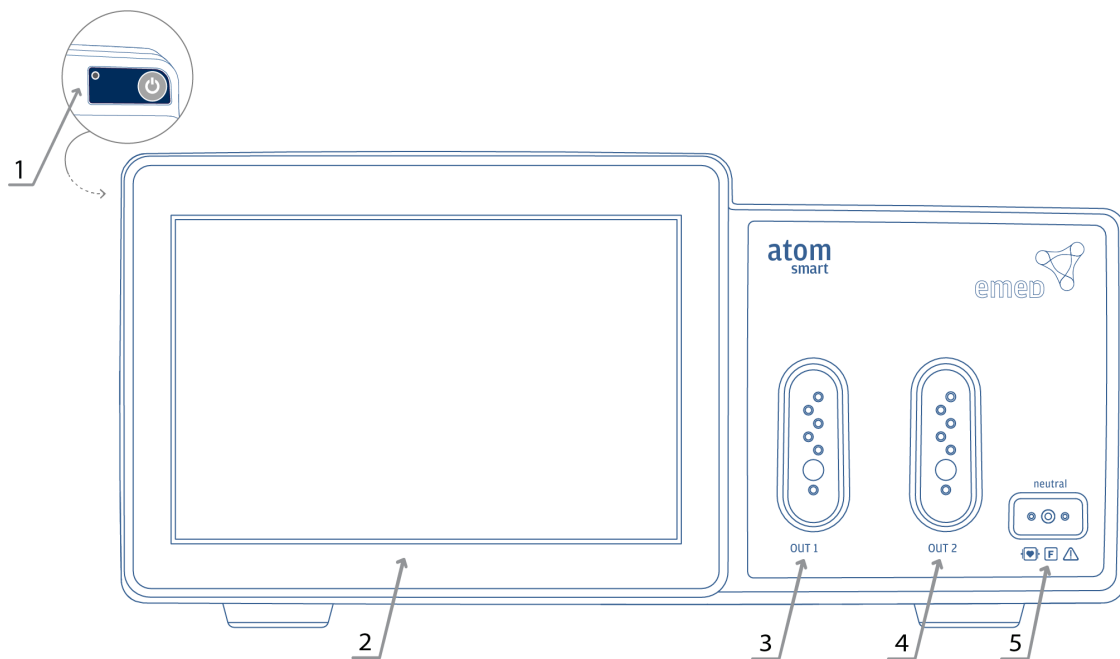
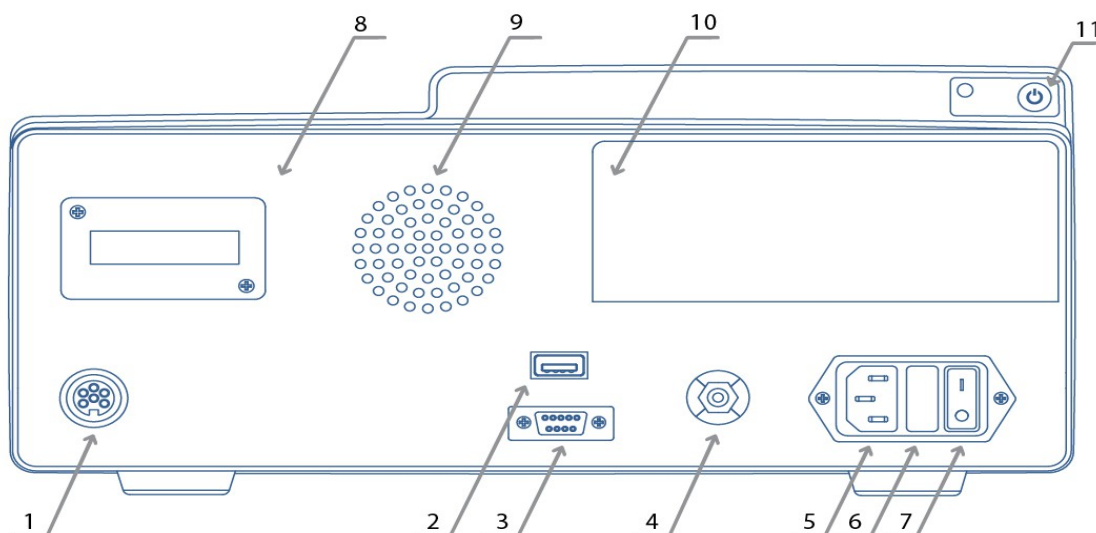

Figure 3. ATOM smart frontside view.
Figure 4. Back view of the ATOM smart system.
The front panel of the ENDO system contains the following items (Fig. 3):
The back panel of the casing, as shown in Fig. 4, contains the following items:
The following SDS accessories manufactured by the company EMED should be plugged into the sockets situated on the front panel of the unit. Working end-pieces should be connected to the accessories (Fig. 3, item 3,4).
After the system has been connected to the power supply, it is switched on with the STANDBY button located on the back of the screen. (Fig. 3, item 1 and Fig. 4, item 11).